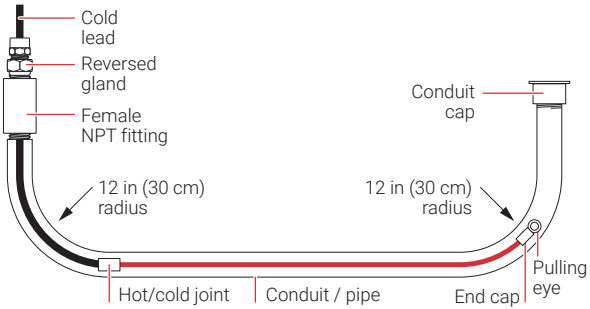

Figure 20: Typical conduit preparation
1. Prepare the conduits in accordance with Figure 20. The “stub up” at the far end from the power supply allows long runs of heating cable to be pulled into the conduit. Conduits should be finished on the far end with a male NPT thread to allow a cap to be installed. The power supply end should be terminated with suitably sized female NPT thread to allow the reversed gland supplied on the heating cable (usually 3/4 in NPT) to make a liquidtight/airtight connection.